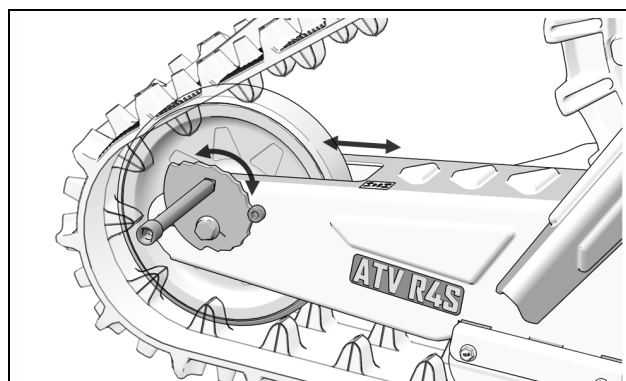

Figure 26
- Turn cam on each side and adjust tension as close as possible to the recommended tension. Figure 26.